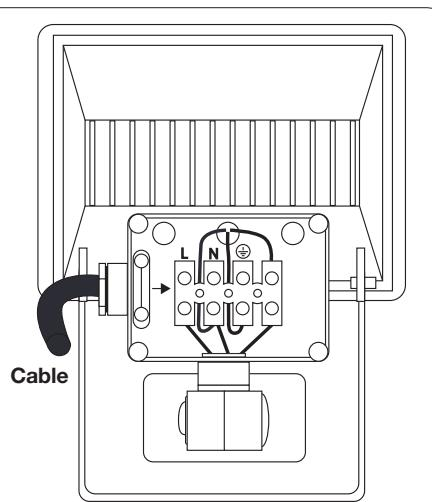

Fig: 1
2. Mounting position: The floodlight should ideally be fixed with the wall fixing bracket. (see Fig. 1)